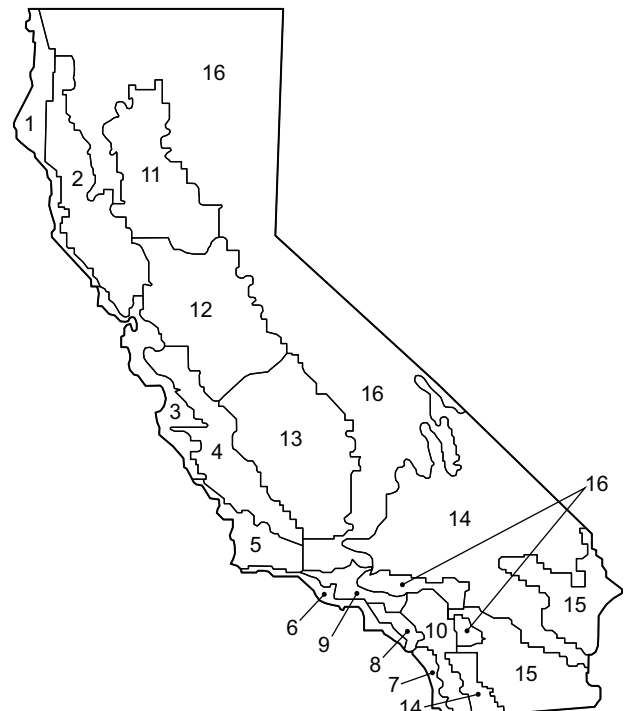

Fig. 93 – California Title 24 Zones
b. See Fig. 93 for map of California Title 24 zones.